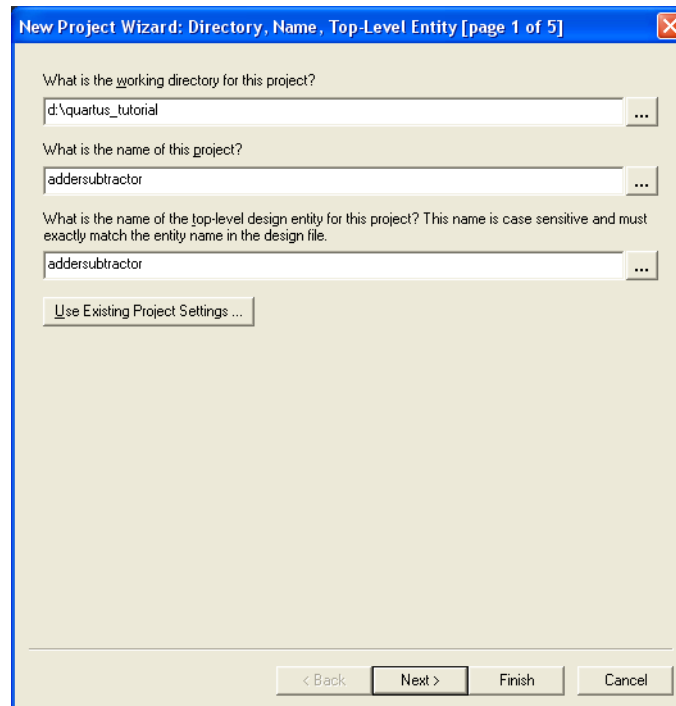
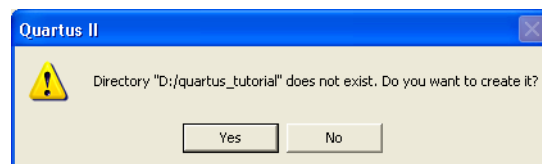
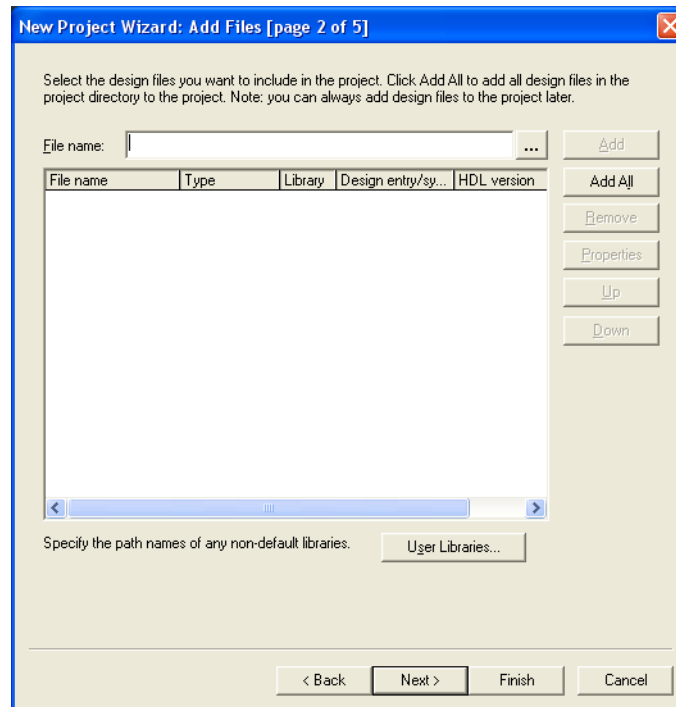

Figure 4: Creation of a new project.
Figure 5: The Quartus® II software can create a new directory for the project.
Figure 6: The wizard can include user-specified design files.
1. Select **File > New Project Wizard** to reach a window that indicates the capability of this wizard, as shown in Figure 4.
2. Set the working directory to be *quartus_tutorial*; of course, you can use a directory name of your choice. The project must have a name, which is usually the same as the top-level design entity that will be included in the project. Choose *addersubtractor* as the name for both the project and the top-level entity, as shown in Figure 4. Press **Next**. Since we have not yet created the directory *quartus_tutorial*, the Quartus® II software displays the pop-up box in Figure 5 asking if it should create the desired directory. Click **Yes**, which leads to the window in Figure 6.